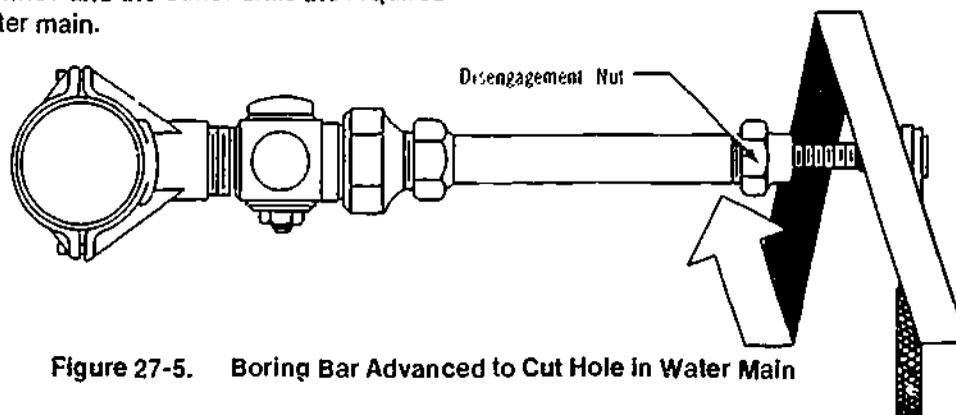

Figure 27-5. Boring Bar Advanced to Cut Hole in Water Main
c) The drilling machine is then attached to the corporation stop, as shown in Figure 27-5, and the boring bar is advanced until the cutter contacts the main; then, with the ratchet wrench, the boring bar is turned clockwise and the cutter drills the required hole in the water main.